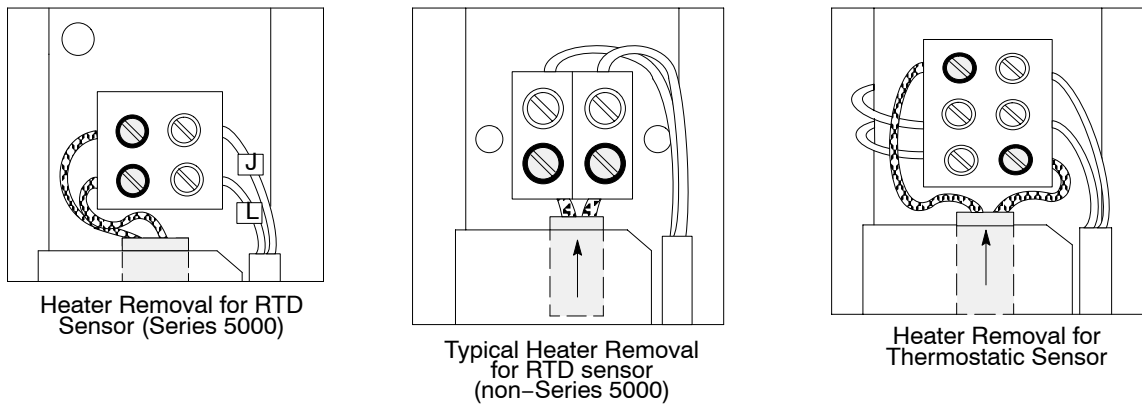

Figure 32 Remove the Heater Cartridge
- See Figure 32. Unscrew the heater cartridge wires from the terminal block. Slide the heater cartridge out of the pivot sleeve.
- Install the replacement heater cartridge, and connect the heater cartridge wires to the terminal block as shown in Figure 32.